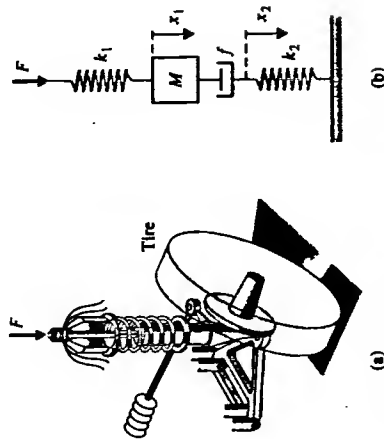

FIGURE P2.47 Truck support model.
1. A load added to a truck results in a force F on the support spring and the tire flexes as shown in Fig. P2.47(a). The model for the tire movement is shown in Fig. P2.47(b).